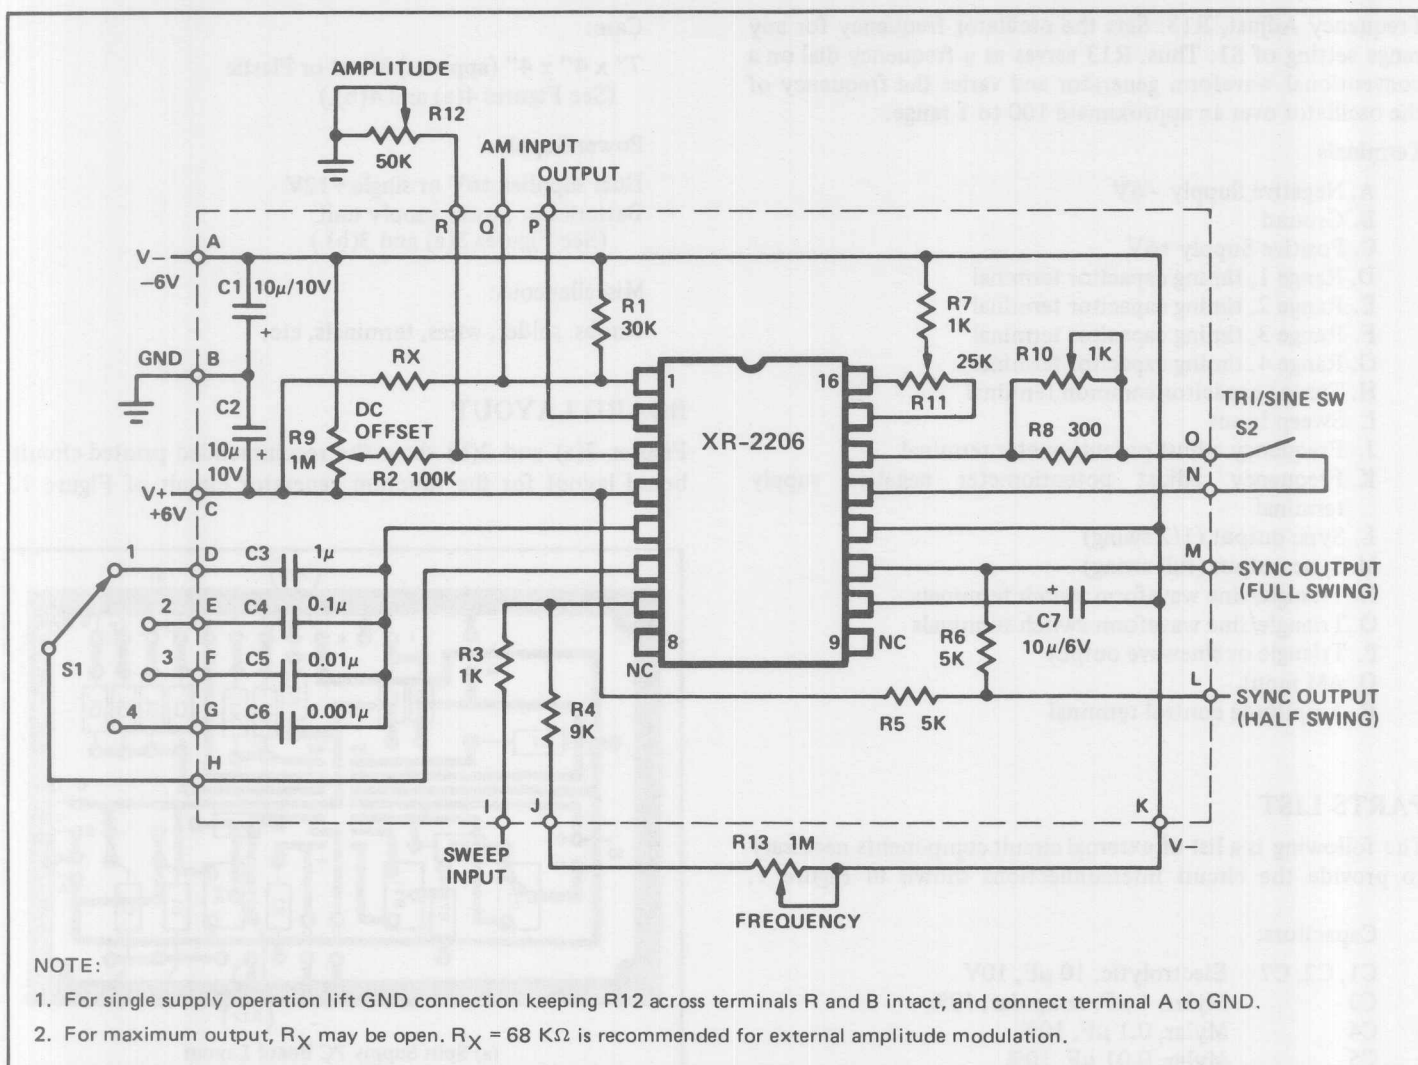

Figure 1. Circuit Connection Diagram for Function Generator. (See Note 1 for single supply operation.)
The performance characteristics listed below are not guaranteed or warranted by Exar. However, they represent the typical performance characteristics measured by Exar's application engineers during the laboratory evaluation of the function generator system shown in Figure 1. The typical performance specifications listed below apply *only* when all of the recommended assembly instructions and adjustment procedures are followed:
- (b) **Frequency Setting:** At any range setting, frequency can be varied over a 100:1 tuning range with a potentiometer (see R₁₃ of Figure 1).
The above expression is accurate to within $\pm 5\%$ at any range setting. The timing resistor R is the series combination of resistors R₄ and R₁₃ of Figure 1. The timing capacitor C is any one of the capacitors C₃ through C₆, shown in the figure.
- (d) **Sine and Triangle Output:** The sine and triangle output amplitudes are variable from 0V to 6 V_{pp}. The amplitude is set by an external potentiometer, R₁₂ of Figure 1. At any given amplitude setting, the triangle output amplitude is approximately twice as high as the sinewave output. The internal impedance of the output is 600 Ω .
- (f) **Sync Output:** The sync output provides a 50% duty cycle pulse output with either full swing or upper half swing of the supply voltage depending on the choice of sync output terminals on the printed circuit board (see Figure 1).
- (g) **Frequency Modulation (External Sweep):** Frequency can be modulated or swept by applying an external control voltage to sweep terminal (Terminal I of Figure 1). When not used, this terminal should be left open-circuited. The open circuit voltage at this terminal is approximately 3V above the negative supply voltage and its impedance is approximately 1000 ohms.
(h) **Amplitude Modulation (AM):** The output amplitude varies linearly with modulation voltage applied to AM input (terminal Q of Figure 1). The output amplitude reaches its minimum as the AM control voltage approaches the half of the total power supply voltage. The phase of the output signal reverses as the amplitude goes through its minimum value. The total dynamic range is approximately 55 dB, with AM control voltage range of 4V referenced to the half of the total supply voltage. When not used, AM terminal should be left open circuited.